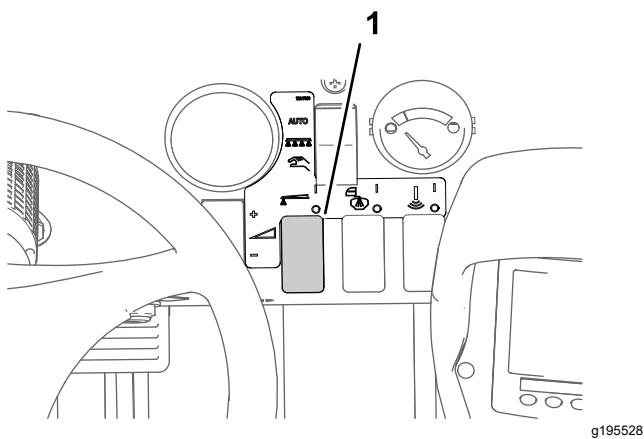

Figure 42
8. Use the application-rate switch to achieve the desired spray pressure as indicated in the nozzle-selection guide provided with the sprayer (Figure 42).